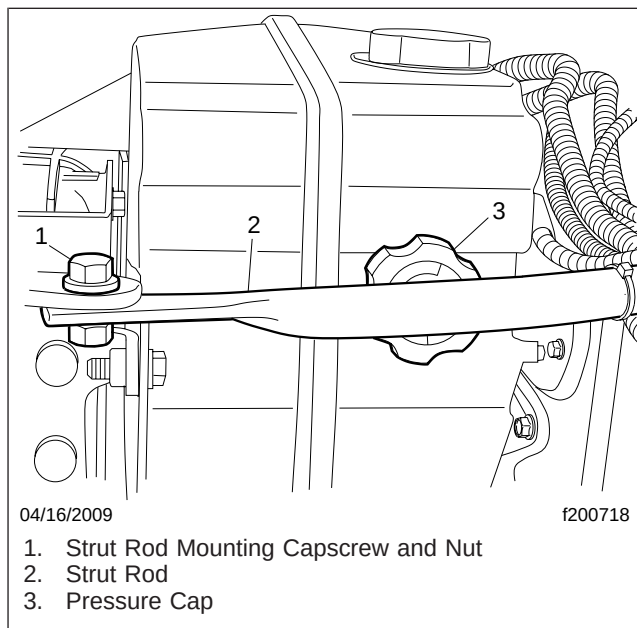

Fig. 1, Radiator Strut Rod Installation
1. Unbolt the driver's side radiator strut rod from the radiator and the engine. Set the strut rod on the engine, and do not disconnect anything that might be attached to it. See Fig. 1.